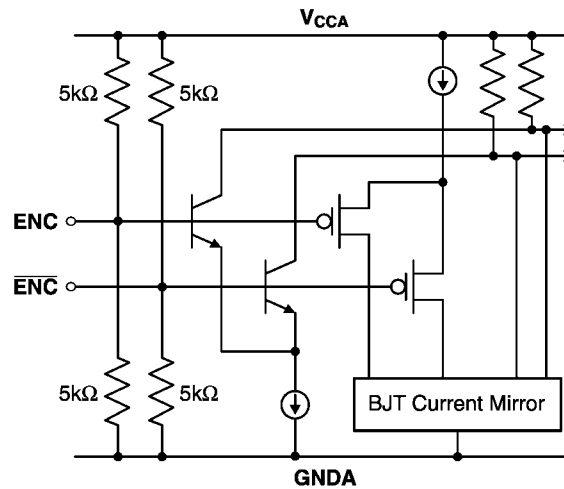

Figure 29. CLC5957 ENCODE Clock Inputs
(2) These parameters are ensured by test.
(3) Values specified based on characterization and simulation.
(4) See Figure 29 for ENCODE inputs circuit.
The CLC5957's differential input clock scheme is compatible with all commonly used clock sources. Although small differential and single-ended signals are adequate, for best aperture jitter performance a low noise differential clock with a high slew rate is preferred. As depicted in Figure 29, both ENCODE clock inputs are internally biased to $V_{CC}/2$ through a pair of 5kΩ resistors. The clock input buffer operates with any common-mode voltage between the supply and ground.